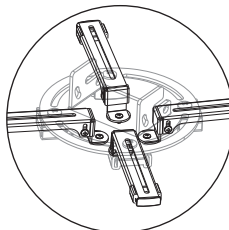

figure 13
3.Connect the installation arms to the projector conversely if the distance of installation holes is less than 120mm. Connect the installation arms (4-2) to the installation base (4-5) via sliding installation button (4-4) as figure 13